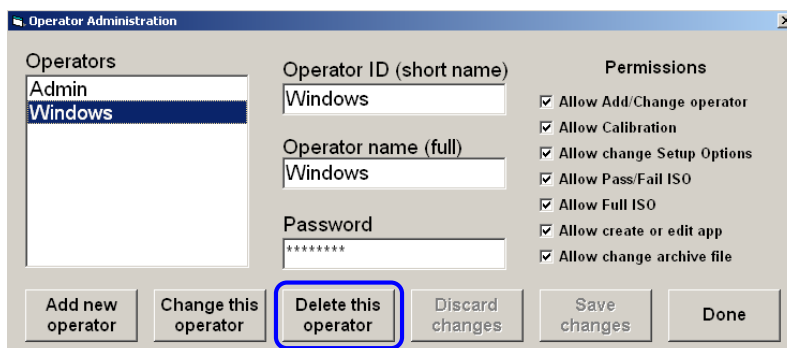

Figure 51: Select "Windows" and then click "Delete this operator"
4. Select **Windows** from the Operator list and then click the **Delete this operator** button (Figure 51).